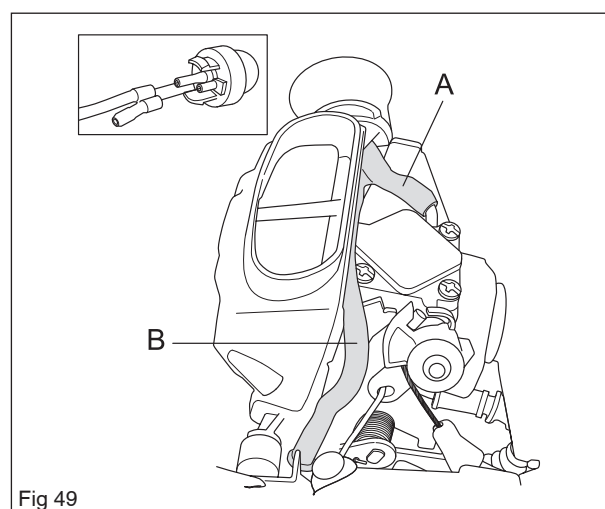

Fig 49
4. Attach the pressure hose A, with the short hose on the short plastic plug on the fuel pump. See figure 49.